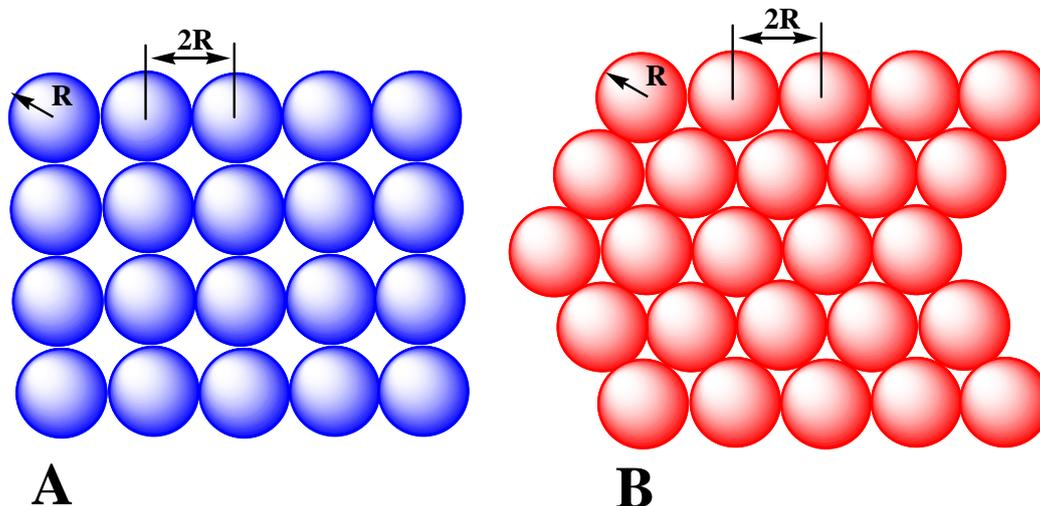

Fig. 2. Two possible types of packing tomatoes.
1. In order to avoid smashing tomatoes during their transportation, it is useful to arrange them on a shelf in a uniform single layer. Let us consider two types of packing (Fig. 2).
(1) The first layer is of the type A (see Fig. 2). The second layer is an exact copy of the first, a vegetable in the second layer is above another one in the first layer (such a packing is termed usually as simple cubic packing, or s.c.).
(2) The first layer is of the type A. In the second layer each vegetable is above a void space in the first layer (body centered cubic packing, or b.c.c.).
(3) The first layer is of the type B. The second layer is an exact copy of the first, a vegetable in the second layer is above another one in the first layer (hexagonal packing, or h.p.).
(4) The first layer is of the type B. In the second layer each vegetable is above a void space in the first layer (hexagonal close packing, or h.c.p.).
a) Calculate the densities of packing for the cases (1) – (4).
c) There are two alternatives to arrange the third layer in the case B: i) by placing vegetables right above the vegetables of the first layer (that is to place them into the voids of the second layer) or ii) by arranging vegetables right above the voids of the first layer (see the case B in Fig. 2). Calculate the density of packing φ for the second alternative which is called the face centered cubic packing – f.c.c.